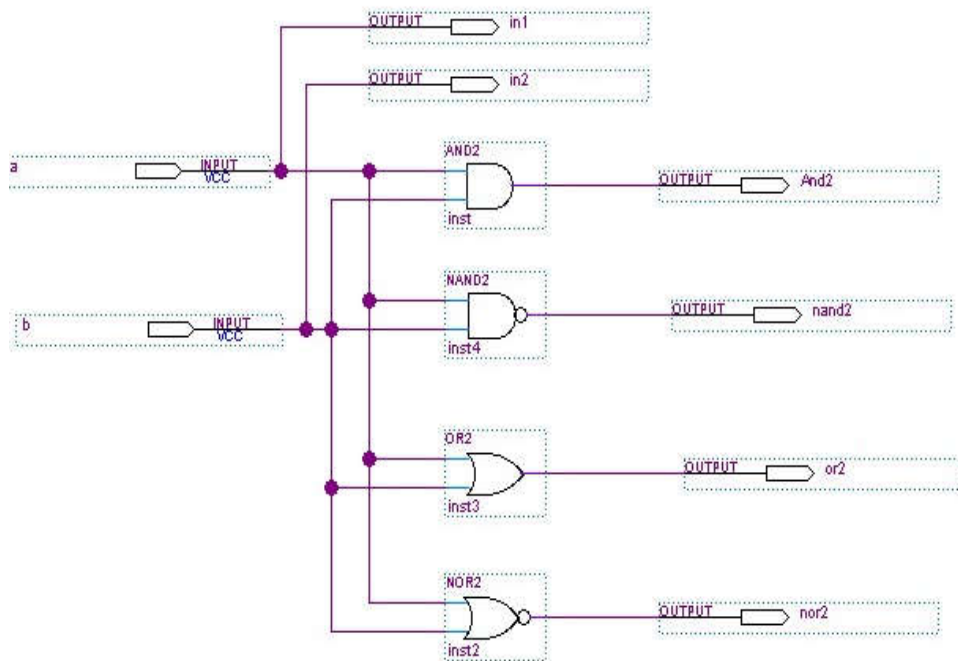

Figure 7: Lab 2 circuit with two Output nodes added.
3. Add 2 outputs nodes and connect them to the 2 input nodes (Figure 7), name these 'in1' and 'in2'.